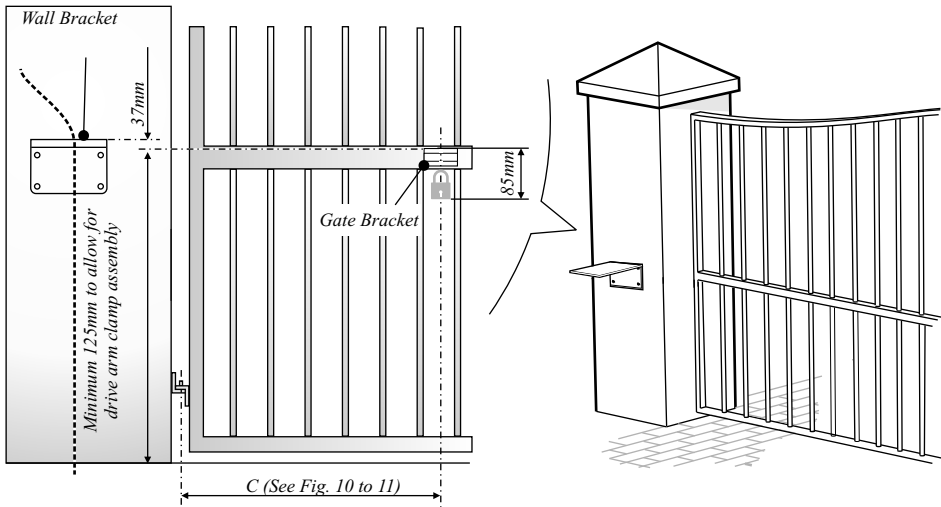

Figure 12 Determine the Position of the Gate Bracket and Pedestal or Wall Bracket
- Determine the vertical height of the pedestal or wall bracket to be 37mm above the gate bracket as in Fig. 12.
- If installing a pedestal, prepare a square hole for the pedestal foundation according to Fig. 12 at the predetermined position.
- Locate a suitable place for mounting the gate bracket according to dimension "C" as shown in Fig. 12
- Determine the height of the bracket above ground by taking into account drive arm clearance and ground clearance for the padlock. (See Fig. 12). Once correctly located, weld or screw the gate bracket to the gate using the two M4 screws provided.
- Securely concrete the pedestal into position making sure that it is vertical, and at the correct height relative to the gate bracket, as shown in Fig. 12. Allow concrete sufficient time to cure.